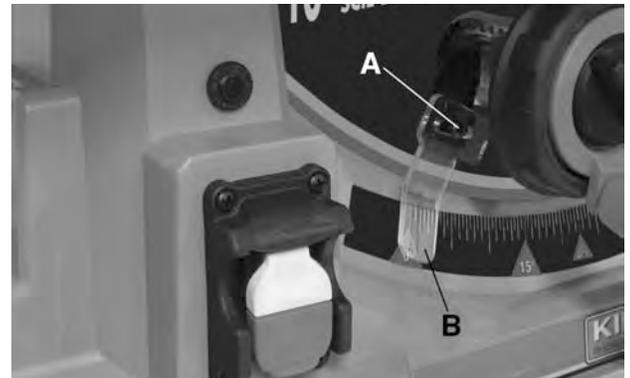

FIGURE 22
3. Loosen the screw (A) Fig.22 which secures the bevel indicator (B). Readjust the position of the bevel indicator so it aligns with the 0° on the bevel scale. Retighten screw.